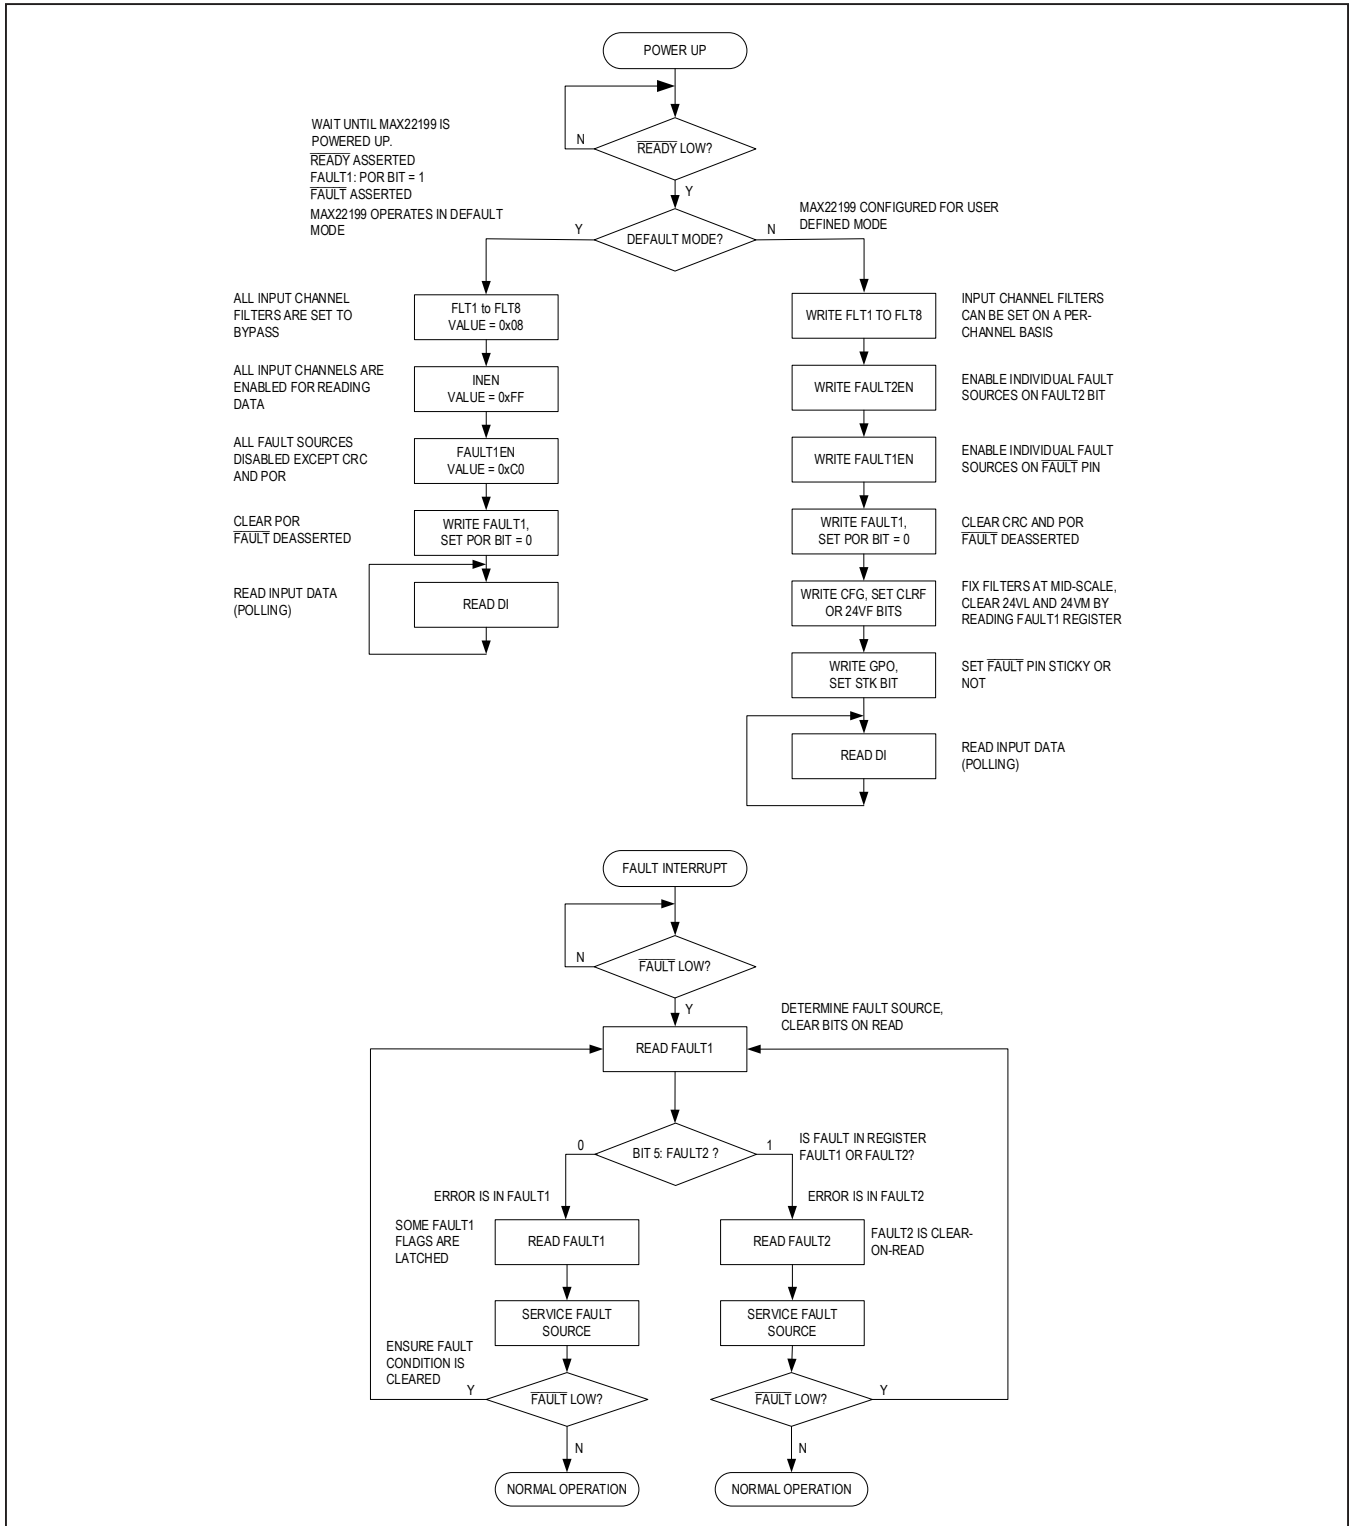

Figure 9. MAX22199 Configuration Flowchart
**Configurable Mode:** The MAX22199 can be configured for different parameters based upon the application requirements. The MCU can write to the various registers to set the options for input channel filters, enabling different fault sources on the  $\overline{\text{FAULT}}$  pin, or disabling specific input channels. In addition, the user can enable features such as making  $\overline{\text{FAULT}}$  pin sticky or not. Once the configuration is complete, the MAX22199 can be polled to read from DI register to show the logic state of the 8 input channels. Figure 9 demonstrates an example to configure the MAX22199.